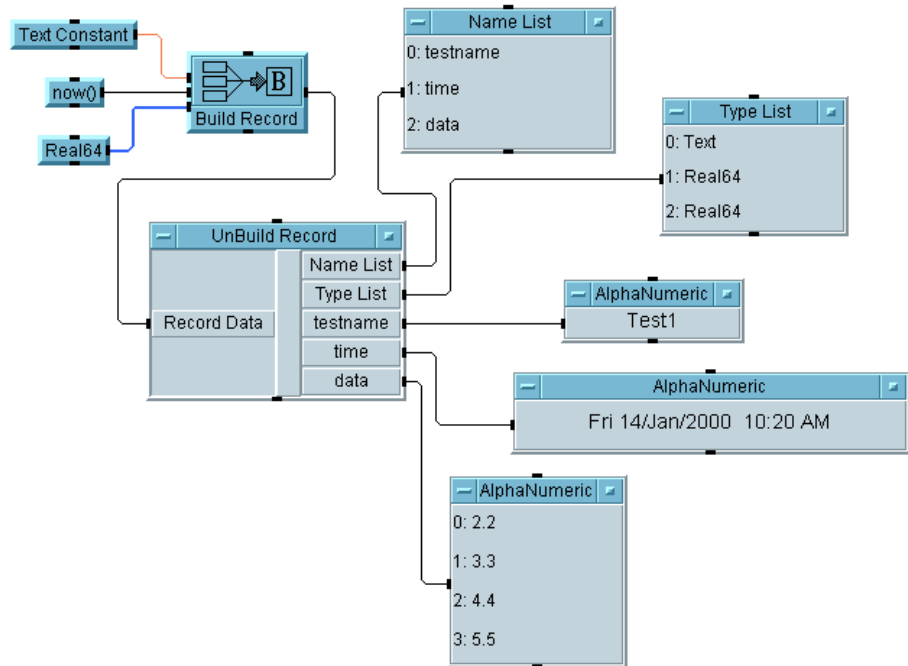

Figure 5-13. Using the UnBuild Record Object
4. Run the program and save it as `unbuild.vee`. It should look like Figure 5-13.